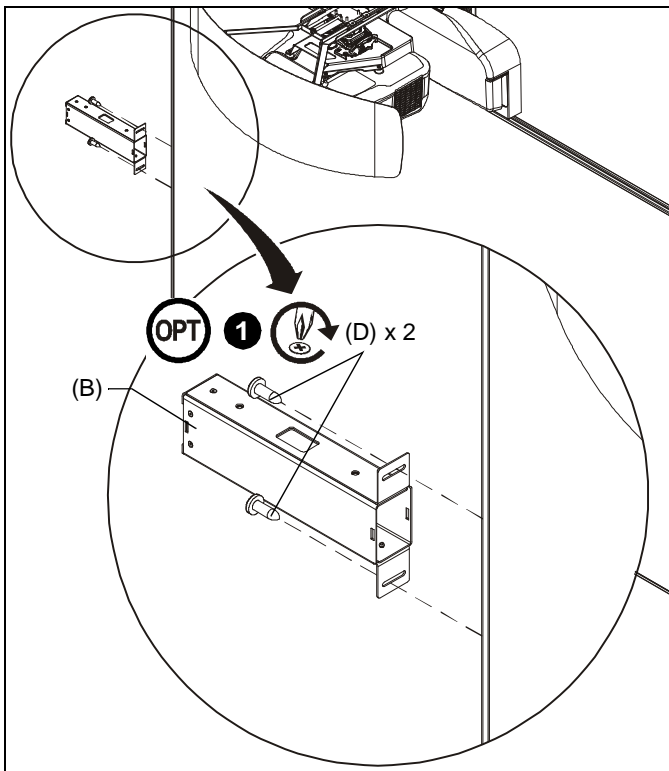

Figure 1
1. **(OPTIONAL)** Place bracket (B) flush with the wall, and attach it at desired location to screen frame using two #8 x 1/2" self-drilling screws (D). (See Figure 1)